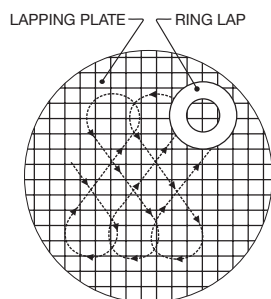

Figure 24: Lapping Pattern
2. Set-up the lathe and nozzle (2) as follows:
- Grip the nozzle in a four-jaw independent chuck (or collet, if appropriate) using a piece of soft material such as copper or fiber between the jaws and the nozzle (see Figure 24).
- True-up the nozzle so that the surfaces marked B, C, and D run true within .001" (.025 mm) on the total indicator reading (see Figure 24).